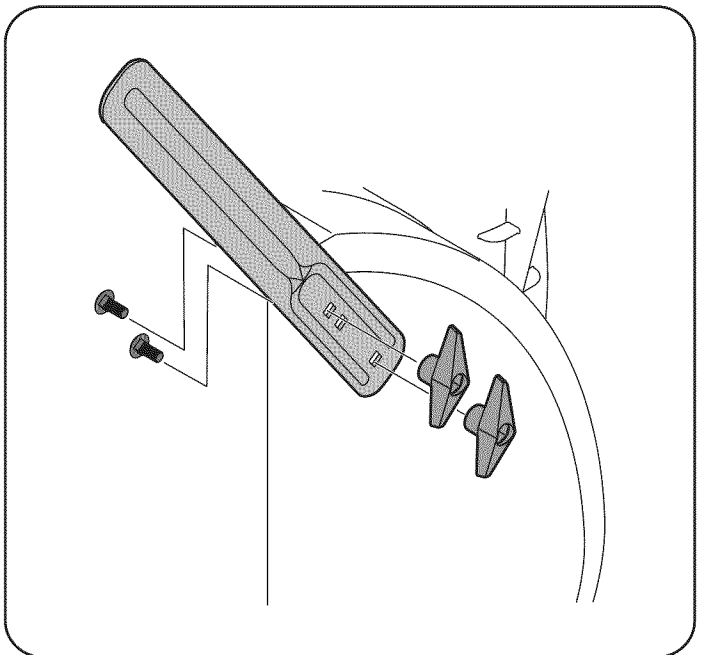

Figure 13
3. Attach the drift cutters with the screws and wing knobs on the outside of the auger housing as shown in Figure 13.